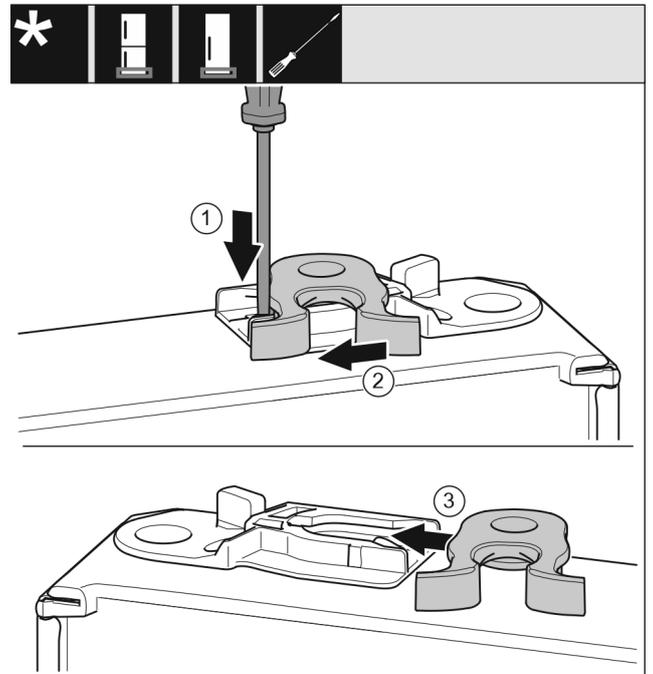

Fig. 51 *
- ▶ Use a slotted screwdriver to push the tab Fig. 51 (1) downwards.*
- ▶ Pull the closing hook Fig. 51 (2) out of the guide.*
- ▶ Insert the closing hook Fig. 51 (3) into the guide on the other side.*